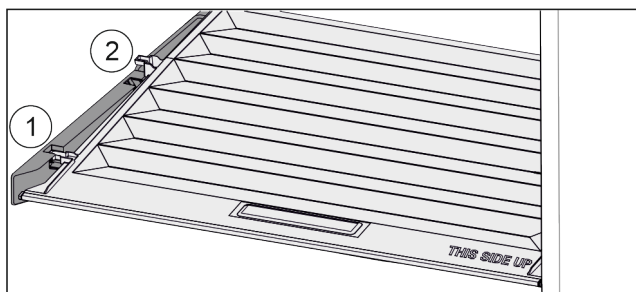

Fig. 106
- Pull the lid up at the front in the retaining parts to the opening Fig. 106 (1).
- Lift from the back and pull it up and out Fig. 106 (2).